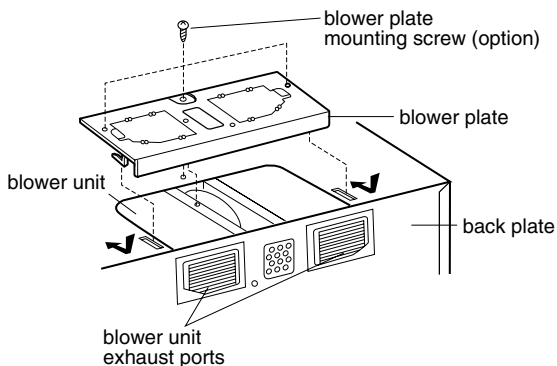

Figure 16
6. Reattach the blower plate to cabinet so the exhaust ports and blower plate opening are aligned. Attach with blower unit mounting screw and then blower plate mounting screws. See Figure 16.